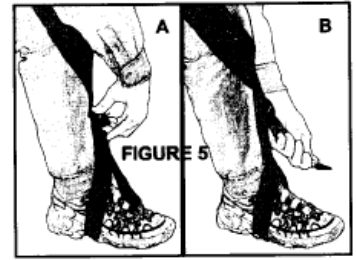

FIGURE 5
5. Adjustments need to be made at two locations at the shin buckle and at the buckle attaching to the belt. First adjust the tension between your foot and knee by loosening or tightening the strap at the shin buckle. See Figure 5 A&B. The buckle should be approximately midway between your ankle and knee.